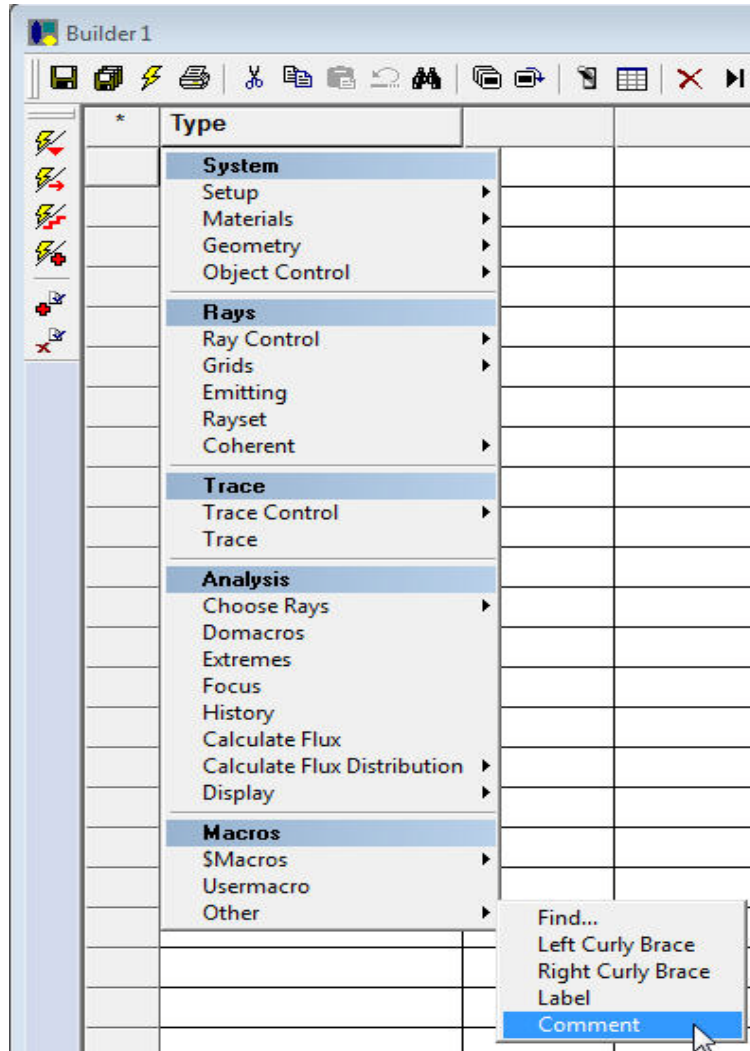

Figure 22 Setting up a comment using the a macro on the Builder shortcut menu
- 13 Double-click the first cell in the Type column to display the shortcut menu, move the cursor down to **Macros** and click Other> Comment. See Figure 22.